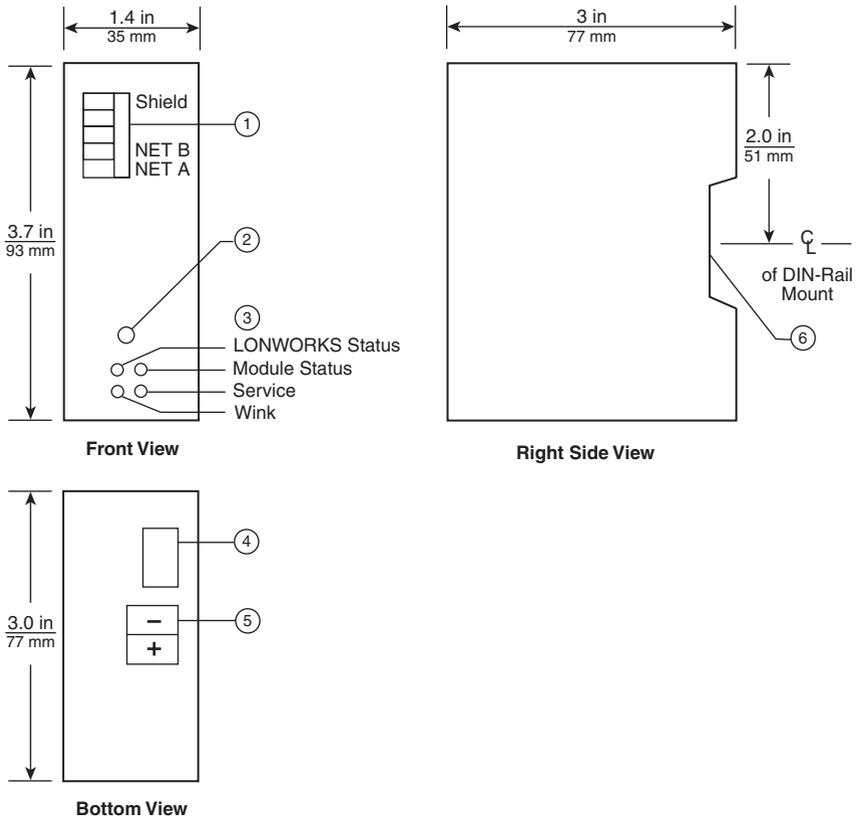

Figure 1: LonWorks Module Layout
Figure 1 identifies the layout of the LonWorks module: the LonWorks connector (1), the service pin (2), the diagnostic LEDs (3), the Modbus RJ45 female port (4), the power supply connector (5), and the 35-mm DIN-rail connector (6).
- Attach the supplied Modbus cable's RJ-45 connector to the Modbus port on the module (see Figure 1 on page 12).
- Secure the two conductors of the LonWorks network cable to terminals "NET A" and "NET B" of the LonWorks pull-apart connector on the front of the module (see Figure 1 on page 12). The connections are polarity insensitive.